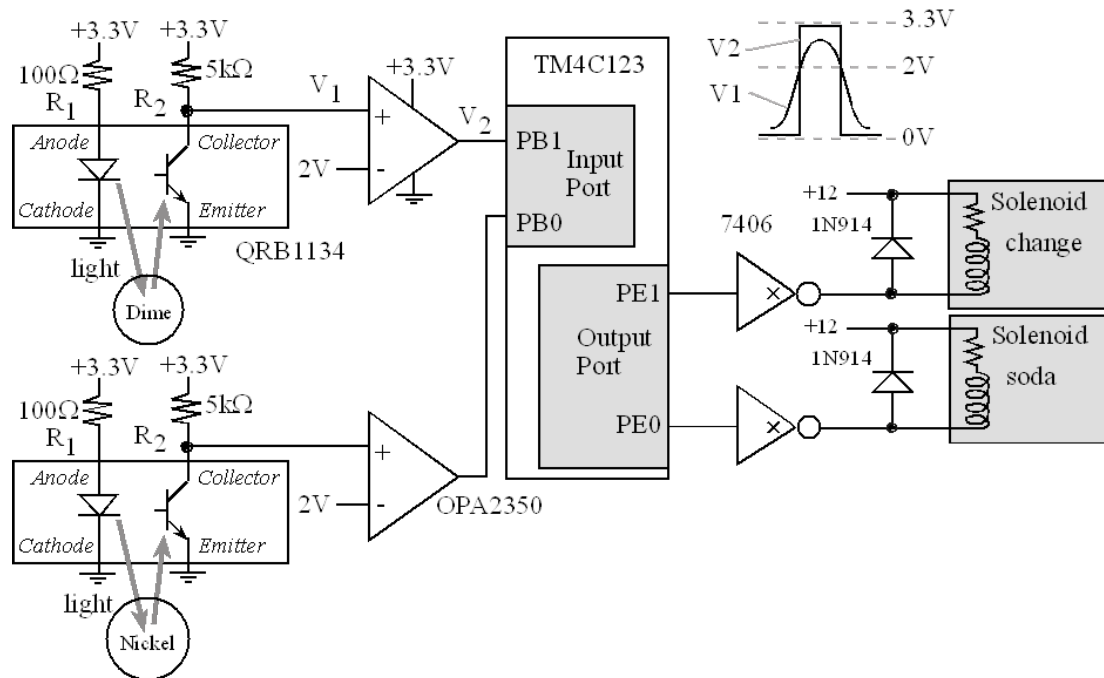

Figure 10.8. A vending machine interfaced to a microcontroller.
Solution: This vending machine example illustrates additional flexibility that we can build into our FSM implementations. In particular, rather than simple digital inputs, we will create an input function that returns the current values of the inputs. Similarly, rather than simple digital outputs, we will implement general functions for each state. We could have solved this particular vending machine using the approach in the previous example, but this approach provides an alternative mechanism when the input and/or output operations become complex. Our simple vending machine has two coin sensors, one for dimes and one for nickels, see Figure 10.8. When a coin falls through a slot in the front of the machine, light from the QRB1134 sensor reflects off the coin and is recognized back at the sensor. An op amp (OPA2350) creates a digital high at the Port B input whenever a coin is reflecting light. So as the coin passes the sensor, a pulse (V2) is created. The two coin sensors will be inputs to the FSM. If the digital input is high (1), this means there is a coin currently falling through the slot. When a coin is inserted into the machine, the sensor goes high, then low. Because of the nature of vending machines we will assume there cannot be both a nickel and a dime at the same time. This means the FSM input can be 0, 1, or 2. To implement the soda and change dispensers, we will interface two solenoids to Port E. The coil current of the solenoids is less than 40 mA, so we can use the 7406 open collector driver. If the software makes PE0 high, waits 10ms, then makes PE0 low, one soda will be dispensed. If the software makes PE1 high, waits 10ms, then makes PE1 low, one nickel will be returned.